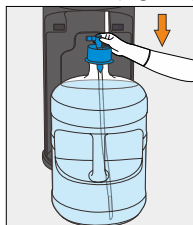

Figure 5
- (6) The tube should be close/hit the bottom of the bottle (Figure 5)